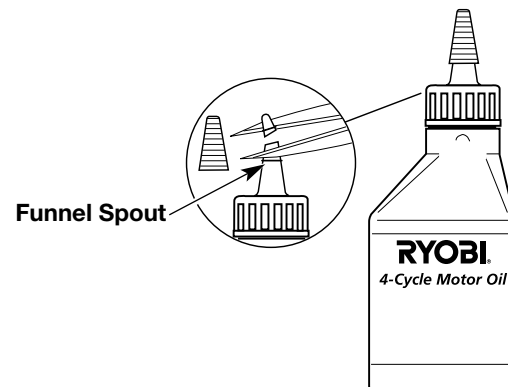

Fig. 17
Your unit is supplied with one 3.4 fluid oz. (100 ml.) bottle of SAE 30 SF, SG, SH oil (Fig. 17).
- Unscrew the top of the bottle of oil and remove the paper seal covering the opening. Replace top. Cut the tip off the funnel spout (Fig. 17).